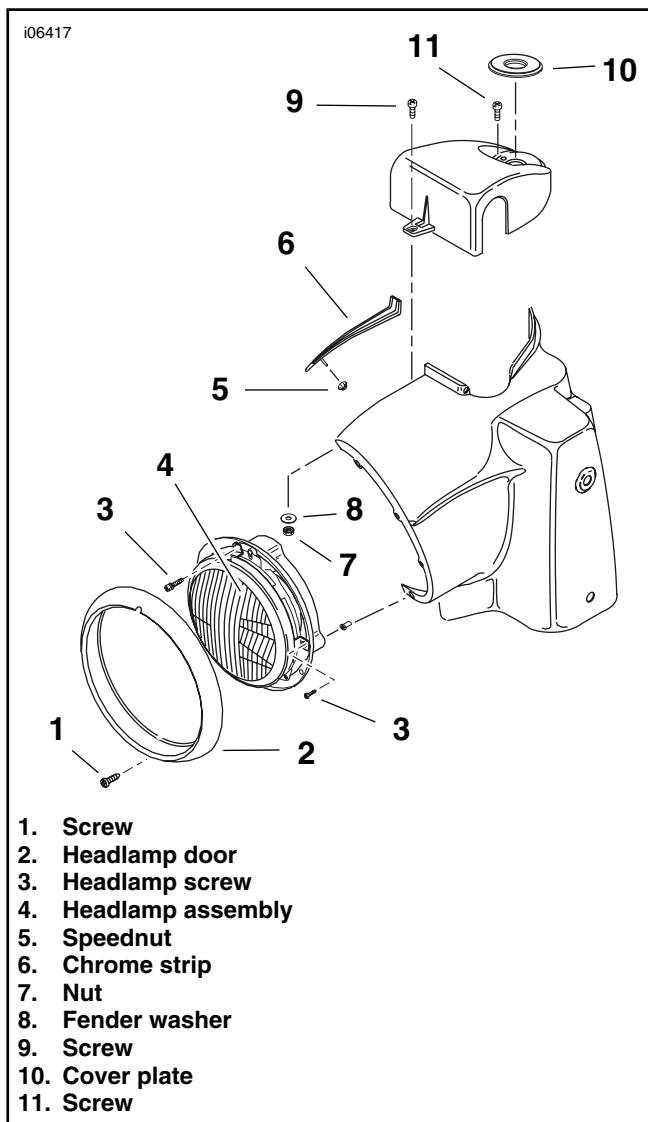

Figure 1. Nacelle and Handlebar Shroud Components
3. See Figure 1. Remove screw (1), headlamp door (chrome ring) (2), and headlamp screws (3). Retain screws.
4. Separate electrical connector and and remove headlamp assembly (4).
5. Remove speednut (5) that holds chrome trim strip (6) in place and remove trim.
- 6.. Carefully pry off fork lock plate (10) on top of nacelle handlebar shroud to access screws that hold cover in place.
7. Under plate, remove 2 screws (11) that hold shroud to fork lock.
8. Remove nut (7) that secures the handlebar shroud and remove shroud, screw (9, and fender washer (8)